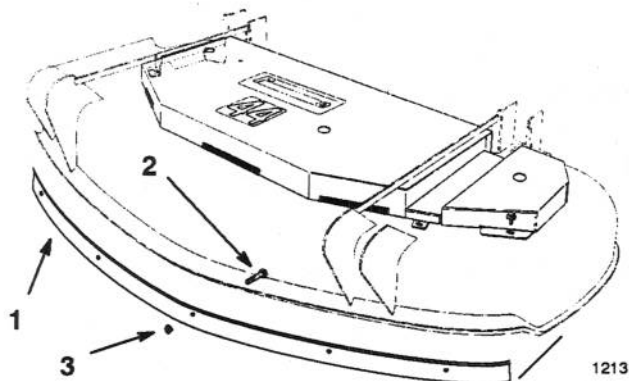

Figure 2
1. Position front baffle inside mower deck level with left edge of mower (Fig. 2).
3. Secure front baffle to mower with (7) 5/16 x 19 mm bolts, through from the inside and thin lock nuts (Fig. 2).
2. Secure belt cover to mower with (2) 3/8 x 19 mm bolts and washers (Fig. 2).